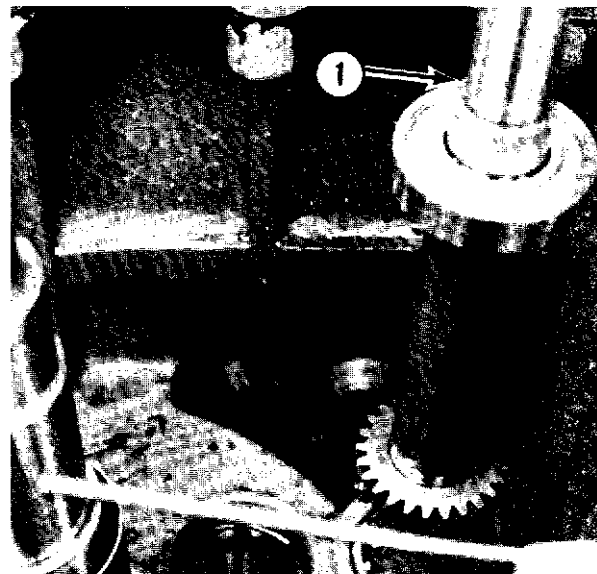

Fig. 11-23
- F. Install the main drive shaft (1, Fig. 11-23).